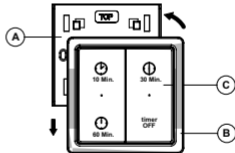

Fig 6.
3. Place the Timer RF on the mounting plate and press it downwards carefully for about 5 mm until the Timer RF clicks into place (fig. 6).